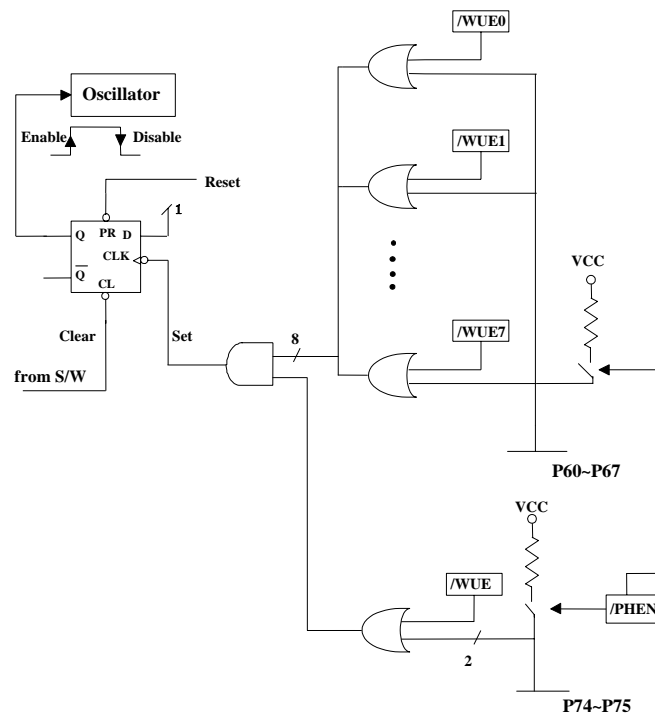

Fig. 5 Sleep Mode and Wake-Up Circuits on I/O Ports Block Diagram
Bit 4 (SLPC) This bit is set by hardware at the low level trigger of wake-up signal and is cleared by software. SLPC is used to control the oscillator operation. The oscillator is disabled (oscillator is stopped, and the controller enters into SLEEP2 mode) on the high-to-low transition and is enabled (controller is awakened from SLEEP2 mode) on low-to-high transition. In order to ensure the stable output of the oscillator, once the oscillator is enabled again, there is a delay for approximately 18ms¹ (oscillator start-up timer, OST) before the next instruction of the program is executed. The OST is always activated by a wake-up event from sleep mode regardless of the Code Option bit ENWDT status is "0" or otherwise. After waking up, the WDT is enabled if the Code Option ENWDT is "1". The block diagram of SLEEP2 mode and wake-up invoked by an input trigger is depicted in Fig. 5. The SLPC bit can be read and written.
- (A) Any of the wake-up pins is “0” as illustrated in Figure. 5. Upon waking, the controller will continue to execute the succeeding address. Under this case, before entering SLEEP2 MODE, the wake-up function of the trigger sources (P60~P67 and P74~P75) should be selected (e.g., input pin) and enabled (e.g., pull-high, wake-up control). It should be noted that after waking up, the WDT is enabled if the Code Option bit ENWDT is “0”. The WDT operation (to be enabled or disabled) should be appropriately controlled by software after waking up.
- (B) WDT time-out (if enabled) or external reset input on /RESET pin will trigger a controller reset.